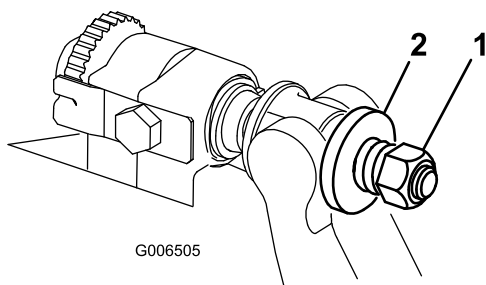

Figure 27
4. Tighten the spring tension nut until the spring is collapsed, then back off 1/2 turn (Figure 27).